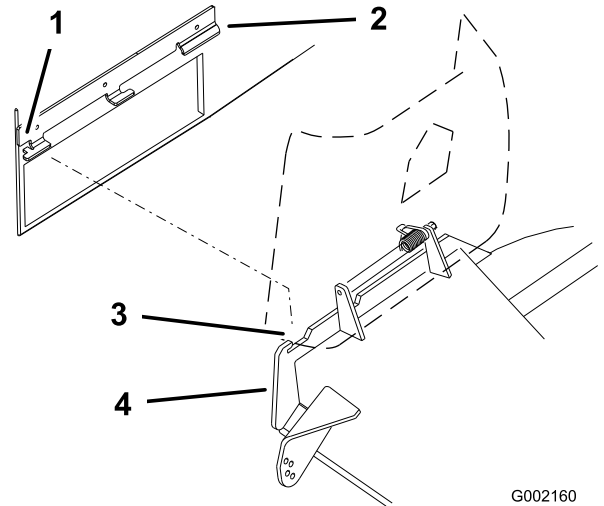

Figure 6
2. Position the front hook on the bagger mounting bracket into the front slot of the mower mounting bracket (Figure 6).
3. Place the rear hook over the mower mounting bracket (Figure 6).